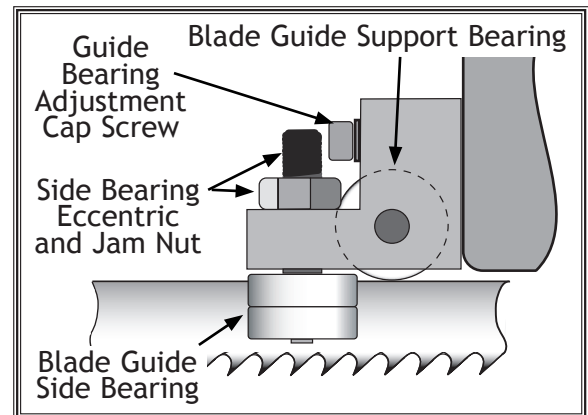

Figure 32. Blade guide adjustment locations.
The blade guide side bearings support the blade so the blade will enter the workpiece perpendicular to the table surface (see **Figure 32**).
3. Using a 6mm hex wrench, loosen the guide bearing adjustment cap screw (see **Figures 32** and **33**).
4. Adjust the blade guide housing so the support bearing rests against the rear of the blade (see **Figure 32**).